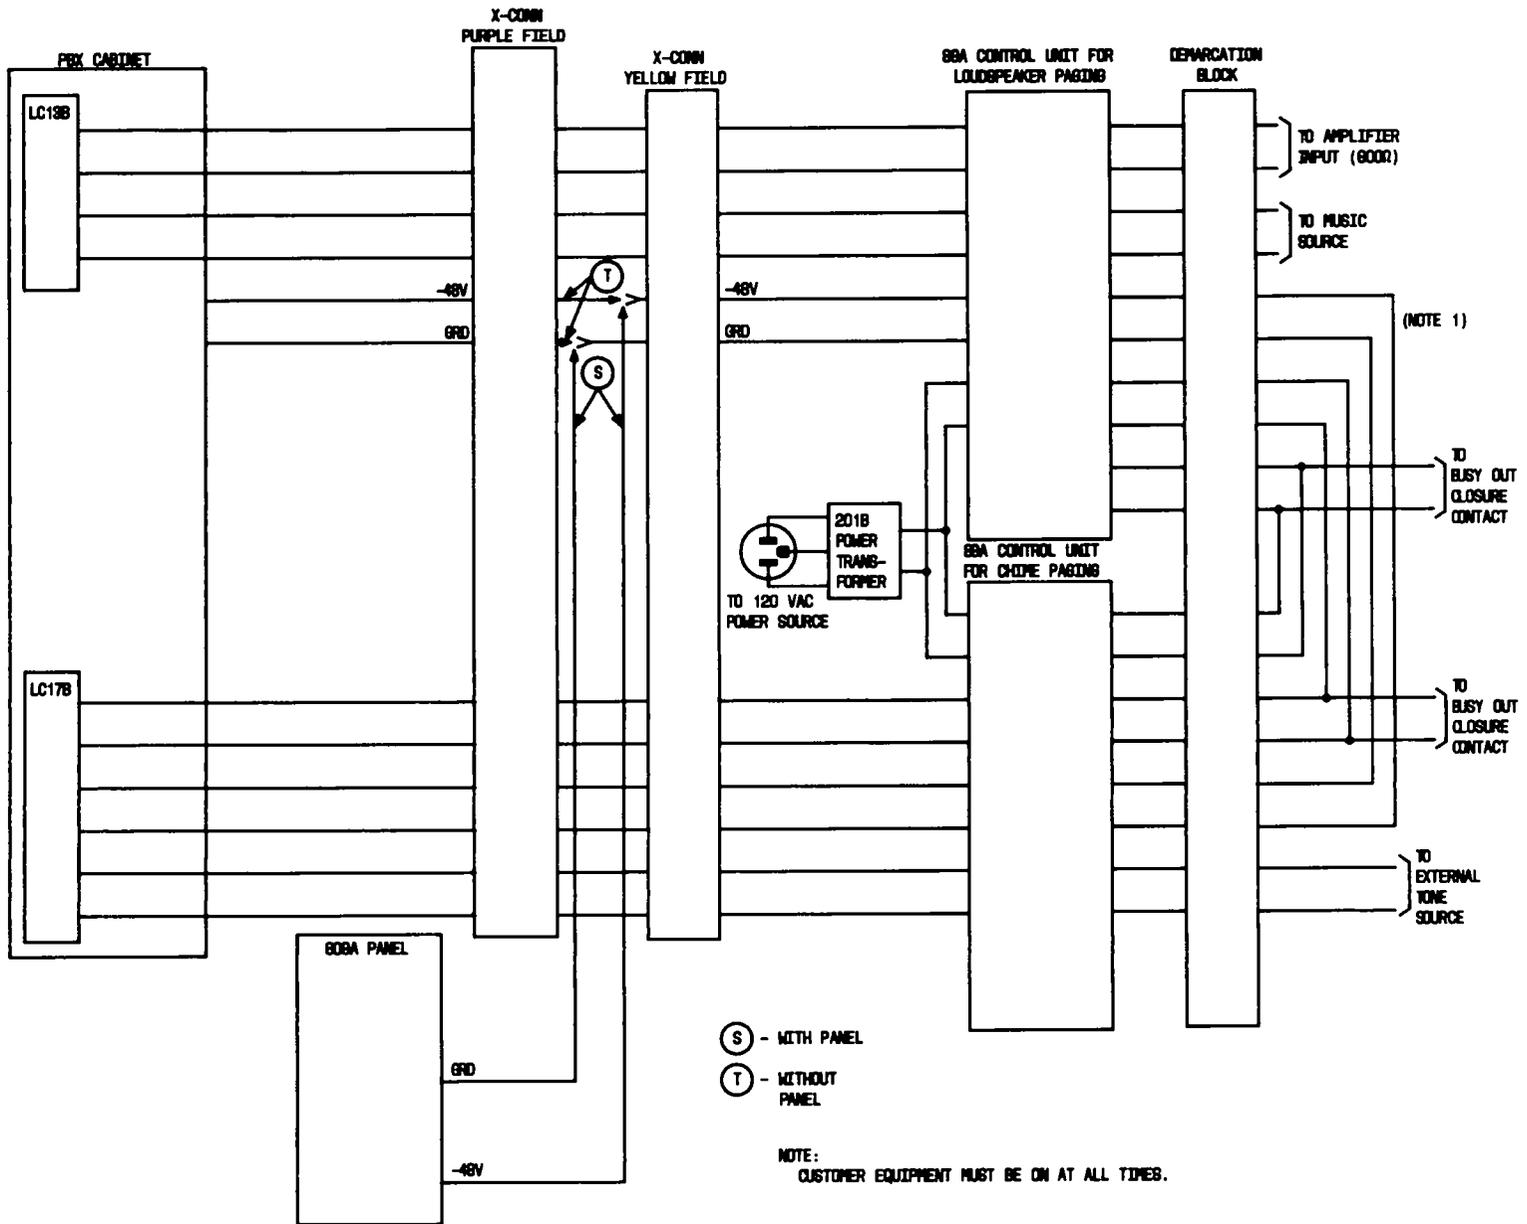

Fig. 32—Loudspeaker Paging With Chime Paging and Music Background
6.53 Connections for loudspeaker paging with chime paging and music background are illustrated in Fig. 32.